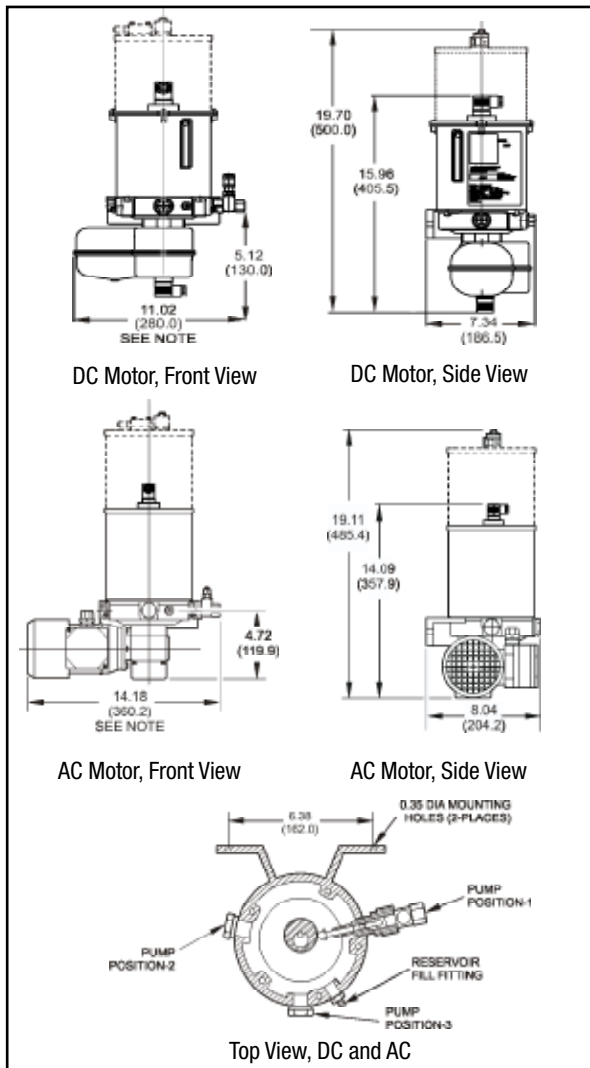

Figure 2-1
2.1.2 The pump is mounted using two 5/16” or two 8 mm bolts (furnished by user) that pass through the mounting feet on the pump body. The mounting bolt length will depend on the thickness of the mounting surface and whether the holes are to be tapped for the bolts or locked in place with nuts and washers. Mounting dimensions are shown in **Figure 2-1**